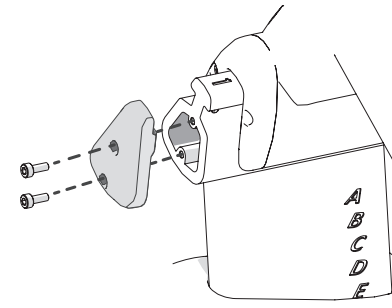

Figure 11
3. Attach the handlebar post end cap ⑨ using two bolts ③ (Figure 11) and fully tighten with the hex key ⑦.